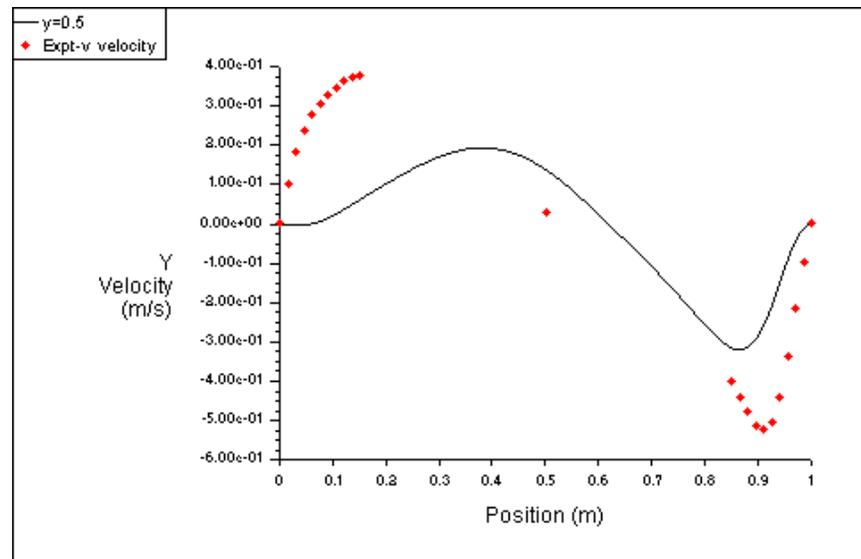

Figure 1.5: Calculated Vs. Experimental Data for Y-velocity on $y=0.5$
- (e) Click **Plot** (Figure 1.5).